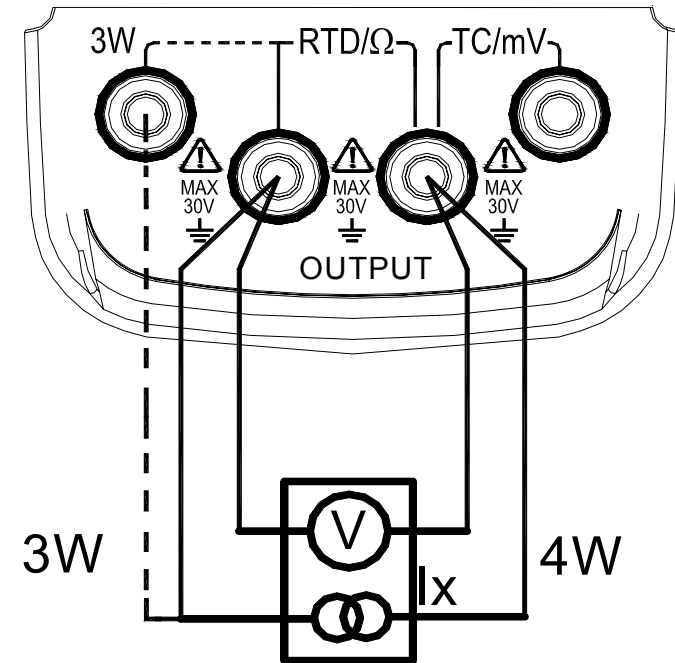

Figure 5-2
1. Insert the testing probe into the jack of the meter's output terminal (RTD/ Ω), and connect the other end with input terminal of the Users' meter, see Figure 5-2: (the dedicated testing probe supplied by the meter can be connected as three-wired or four-wired output as required by the Users)